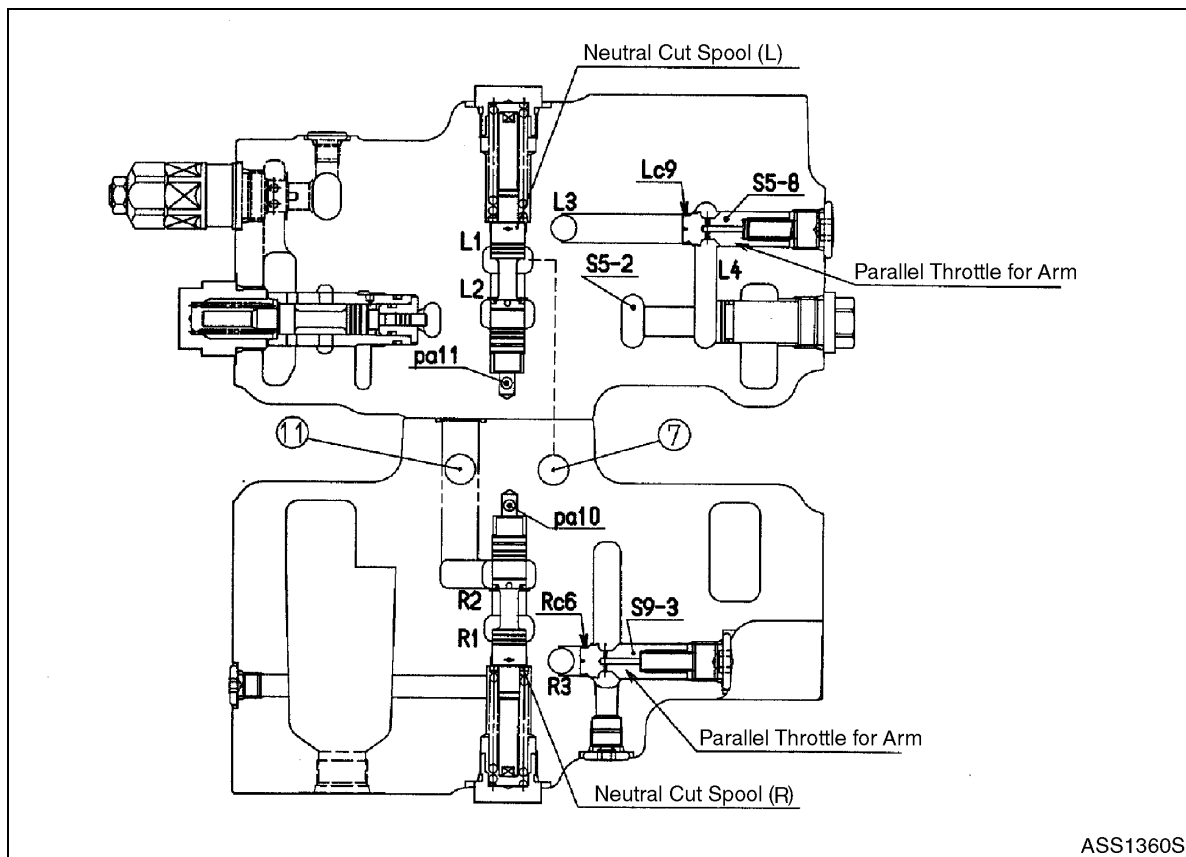

Figure 11
Neutral-cut Spool Shifting (Figure 11)
Parallel Throttle for Arm (Figure 11)
2. The parallel circuit of arm 2 (section 9), after narrowing at the throttle (Rc6) in poppet (S9-3) allows oil from parallel passage (R3), to join with oil in passage (S9-2, Figure 11).